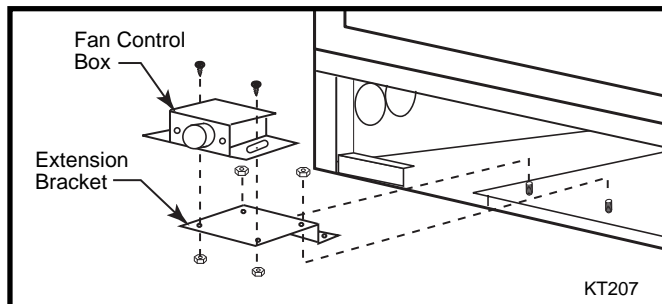

Fig. 31 Attach the control box to the bracket and install bracket into the cabinet.
- b. Attach the Fan Speed Control Box to the Bracket (Fig. 31) and install the Bracket into the Cabinet.